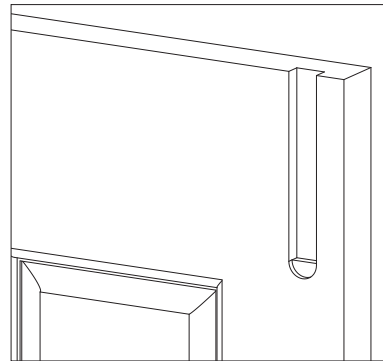

Figure 2.
3.4. Create a D6mm cavity to accommodate rounded end (Figure 2).